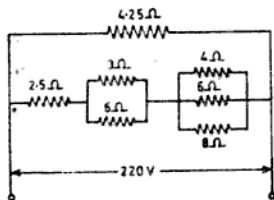

Fig. NE 3.23
- 3.23 Find the total resistance of the circuit shown in Fig. NE 3.23. (Ans. 5.2Ω)